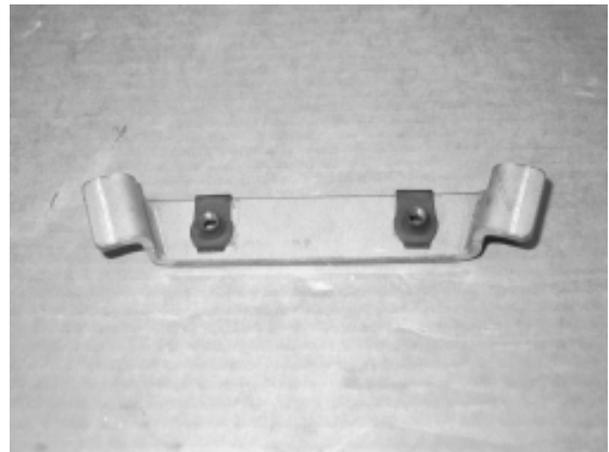

Figure 2
2. Assemble j-nuts (B2) to both the long and short brackets (A3,A4). See Figure 2.